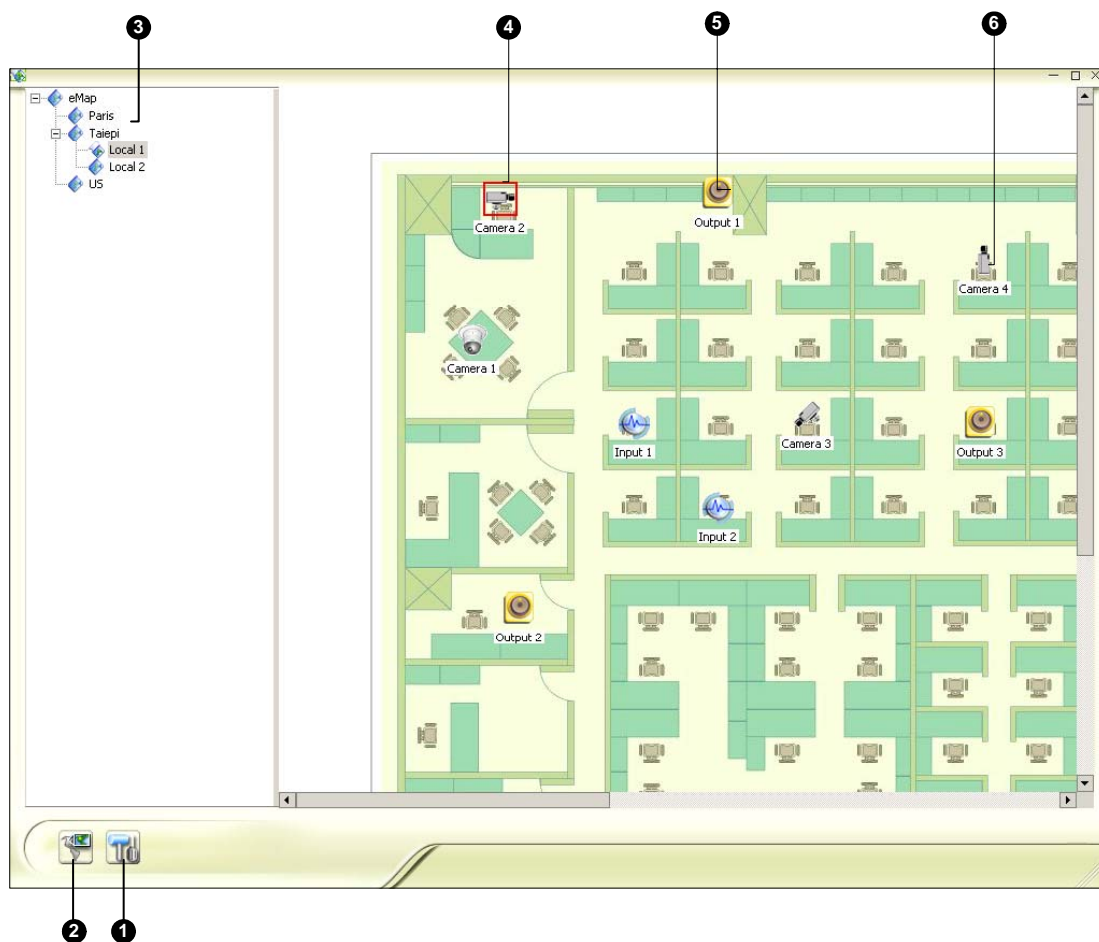

Figure 7-5 The E-Map Viewer Window
1. Click the **Popup Settings** button (No.1, Figure 7-5). Select desired cameras and input devices for the application, and specify **Dwell Time** for the interval between two pop-up maps.
2. Click the **Toggle Popup** button (No.2, Figure 7-5) to enable the function.